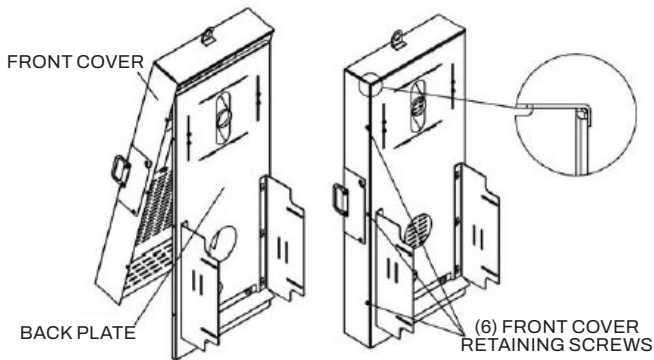
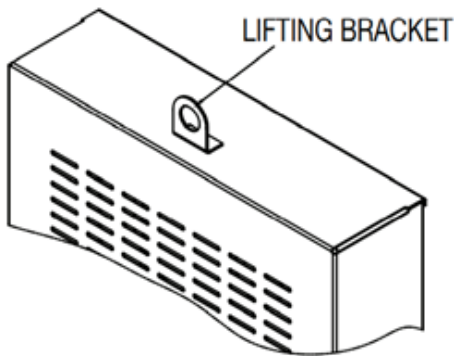

Figure 24 - Installation of the Front Cover
Figure 25 - Use of the Lifting Bracket
6. Install the front cover by lifting the front cover higher than the top of the back plate using the lifting handles or lifting bracket, shown in Figure 24, attached to the front cover. Use an appropriate lifting device when using the lifting bracket, as seen in Figure 25.